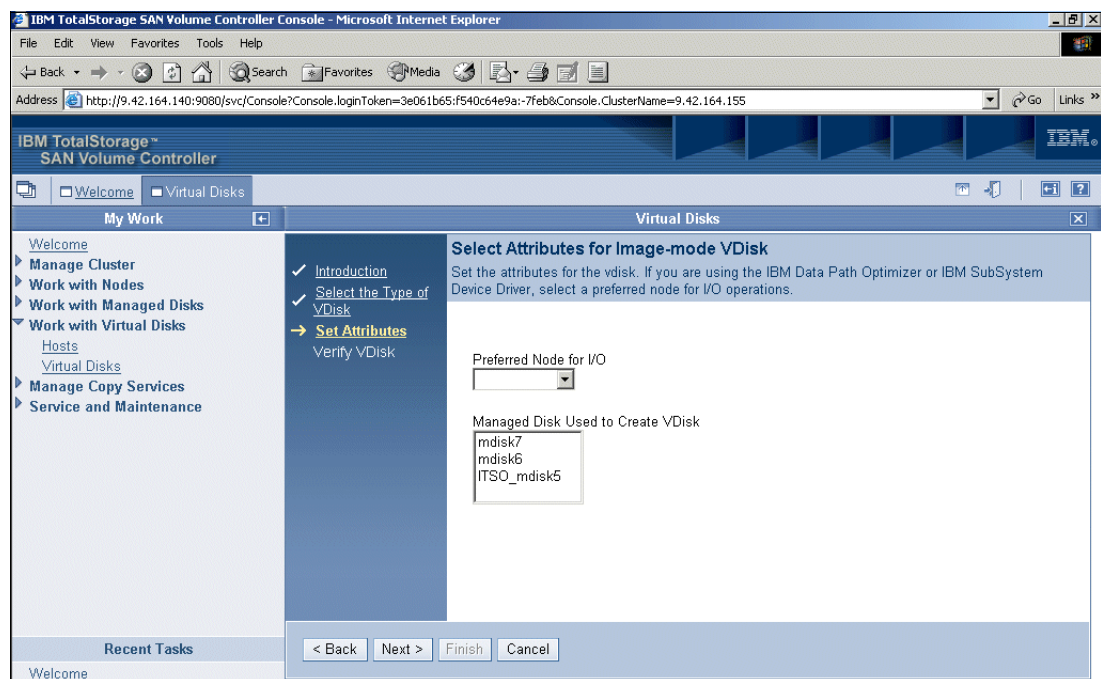

Figure 9-65 Creating a vDisk wizard: Select Attributes for Image-mode vDisk
- As shown in Figure 9-65, with an *image-mode vDisk*, you can: